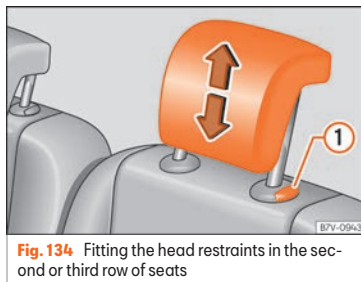

**Fig. 134** Fitting the head restraints in the second or third row of seats
- Remove the head restraint completely while pressing button » » » **Fig. 134** (1).